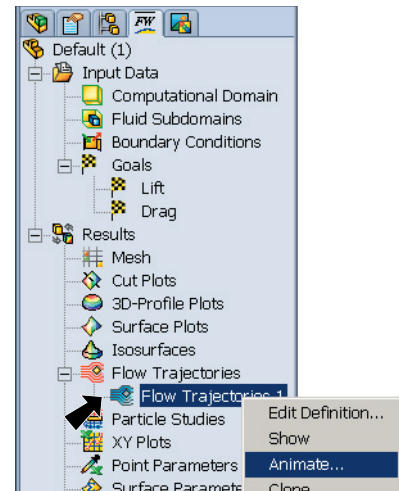

Fig. 32
click **OK**, **Fig. 32**.
Step 1. **Right click Flow Trajectories 1** in FloWorks tree and click **Animate**, Fig. 32.